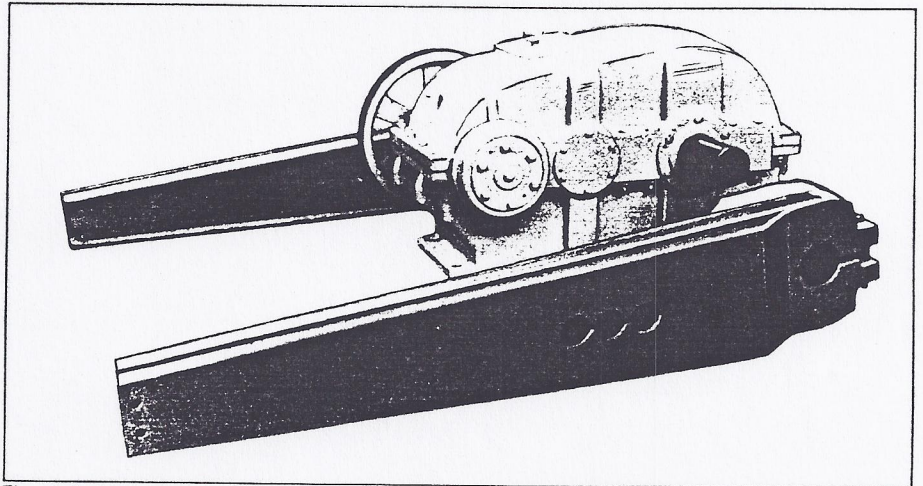

Figure 1
- b. Turn the drive shaft until the fitting key is positioned towards the brake. Push the cranks onto the shaft, making sure that the fitting key is positioned. Care must be taken to be sure crank hub is snugged against shaft shoulder. See illustration in Figure 1.